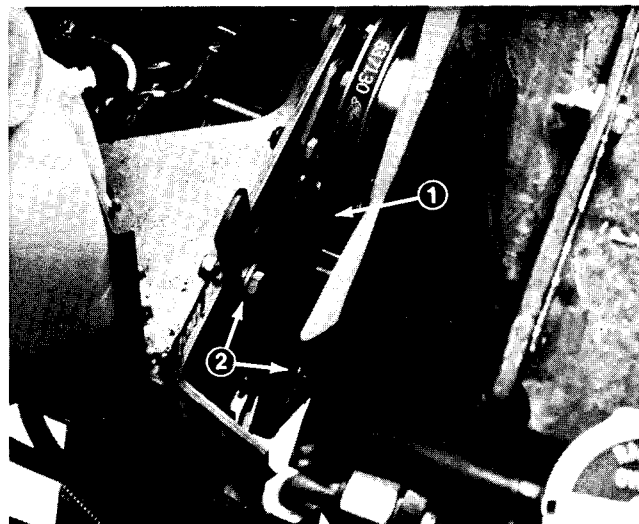

Figure 37
2. Loosen two nuts securing the idler pulley lever to the bracket (Fig. 37). Move the pulley away from the belt.